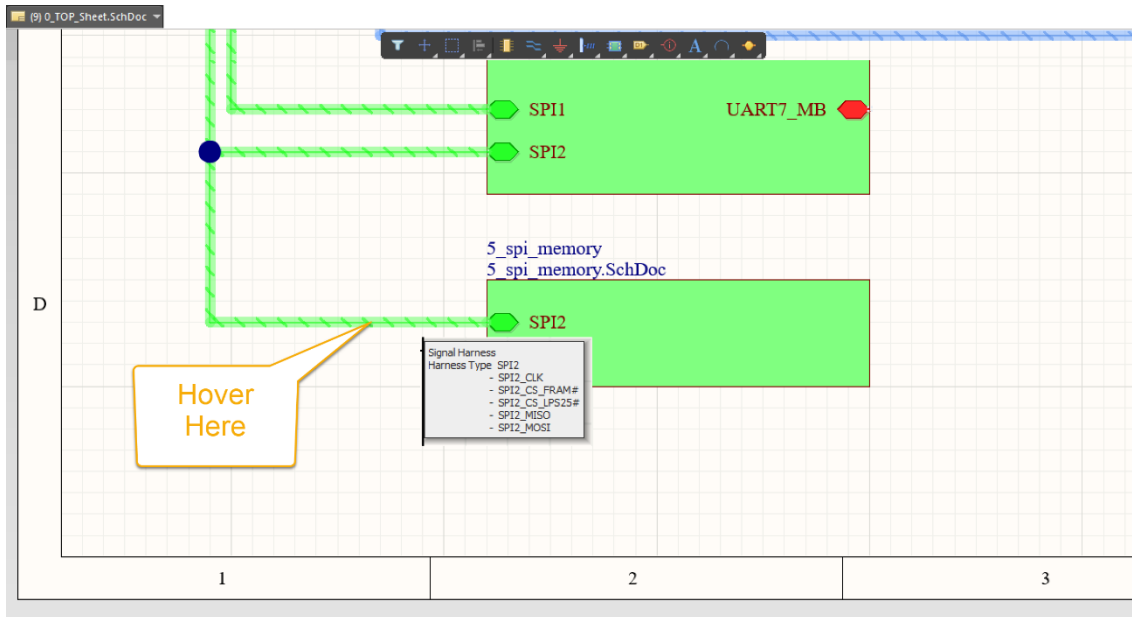

Figure 2. Signal Details inside of the Signal Harness
11. In the schematic, hover over the existing SPI2 harness connection to see the individual signals that are included in the harness. You will see the SPI2 nets as shown in Figure 2.